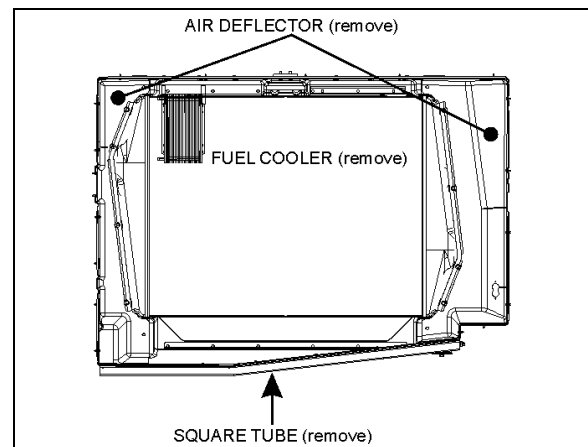

FIGURE 17: LOCATION OF SQUARE TUBE
5. Open the radiator door and remove the door auxiliary arm (not the hinges) and lower square tube (see fig. 17).